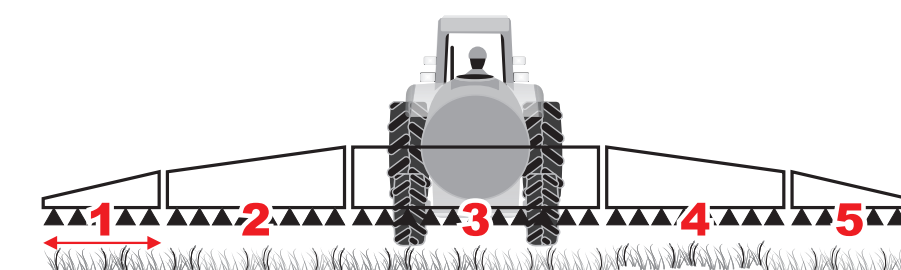

Fig. 56
- Enter the measurements of the implement sections (Fig. 56).